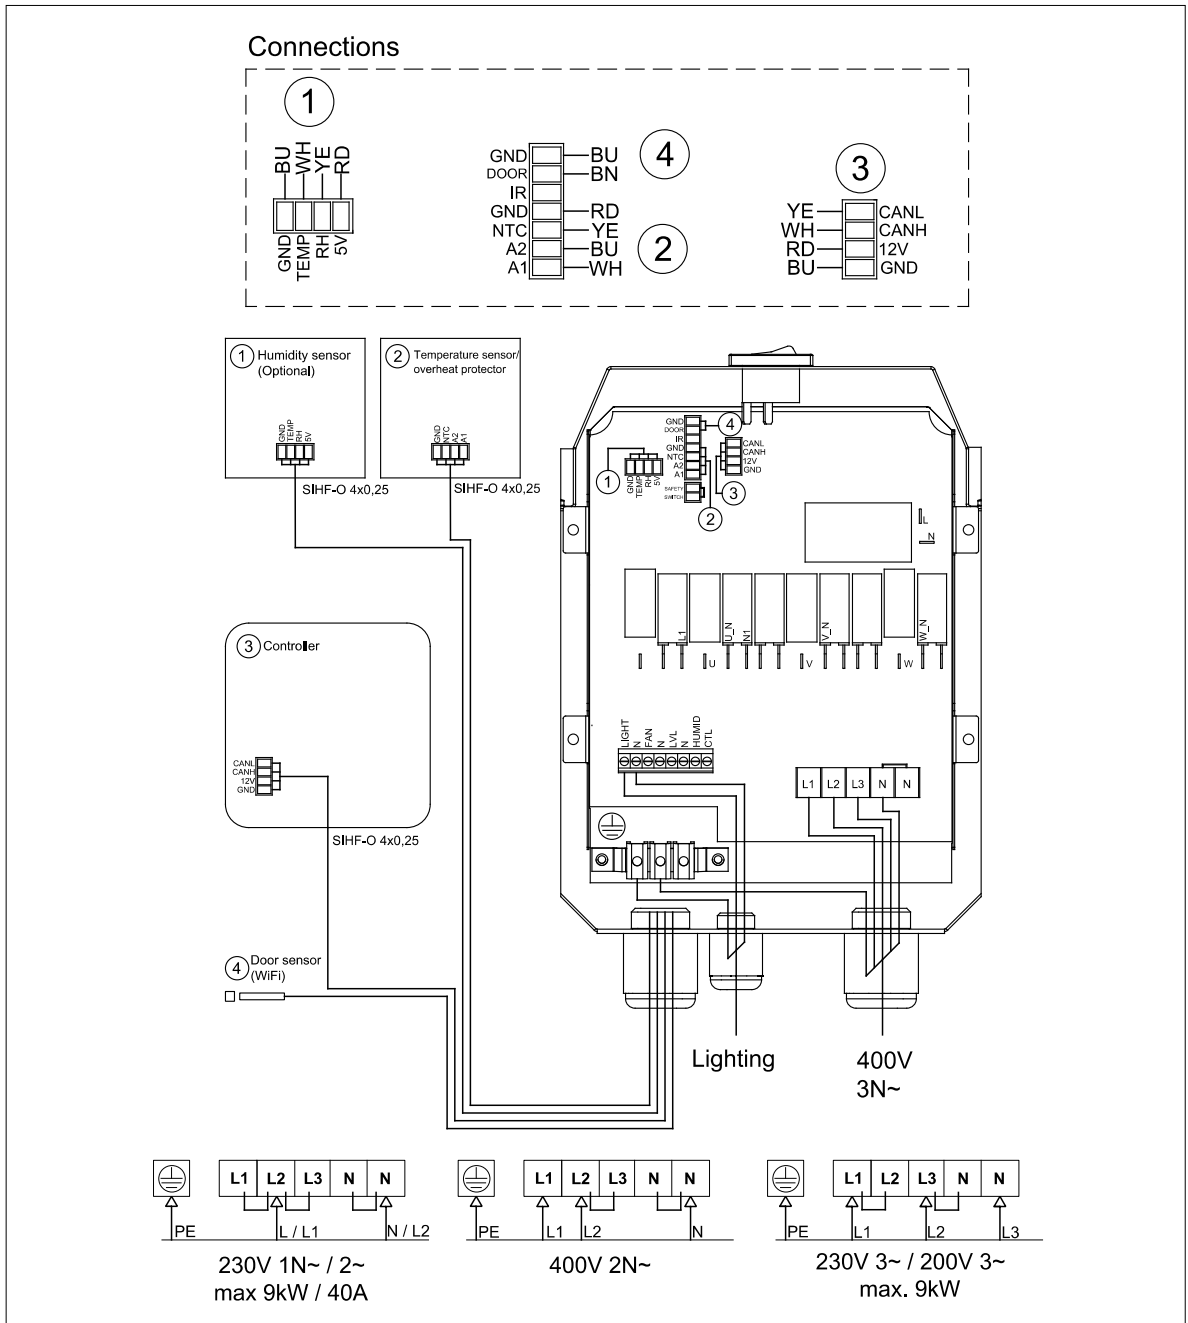

Figure 2. Wiring diagram
5. Once the components of the controller have been installed and connected, the power supply cable can be connected to the sauna heater according to the wiring diagram (Figure 2). The power supply cable must be a rubber cable of type H07RN-F or equivalent. The cable cross-section and fuse rating are shown in Table 3.